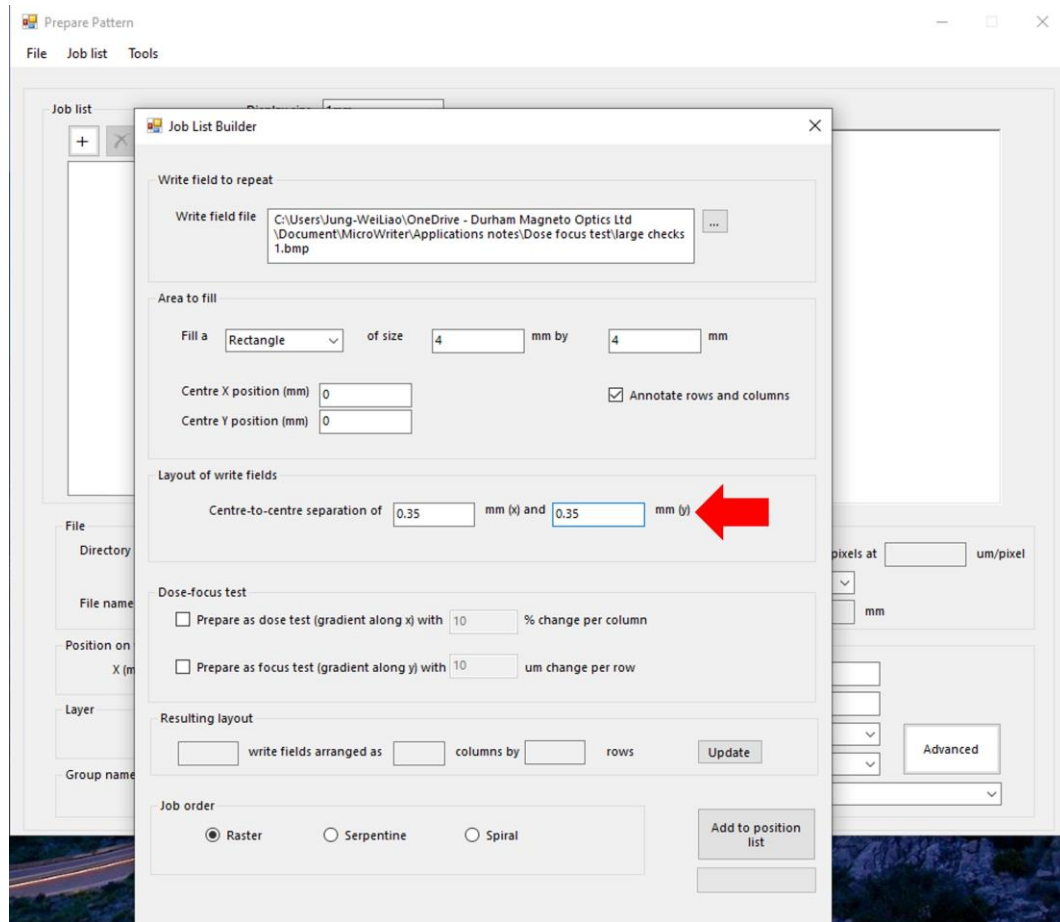

Figure 6 Enter the centre-to-centre separation between neighbouring patterns.
- h. Enter the centre-to-centre separation between neighboring patterns (Figure 6). This needs to be larger than each pattern size to avoid overlapping between patterns.